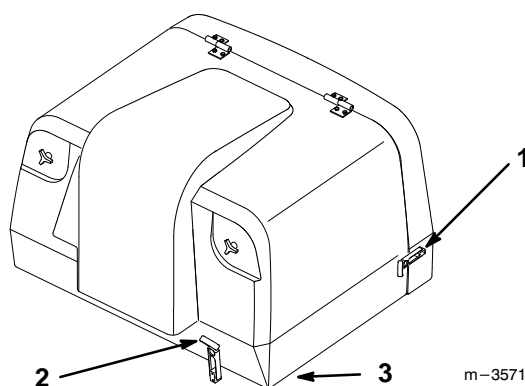

Figure 21
3. Unhook the door latches on the rear sides and the hopper latch on the front left side of the hopper (Fig. 21).
4. Open the door and lift up on the hopper at the lower front and dump the clippings (Fig. 21).
5. Lower the hopper and secure the door latches on the rear sides and the hopper latch on the front left side of the hopper (Fig. 21).